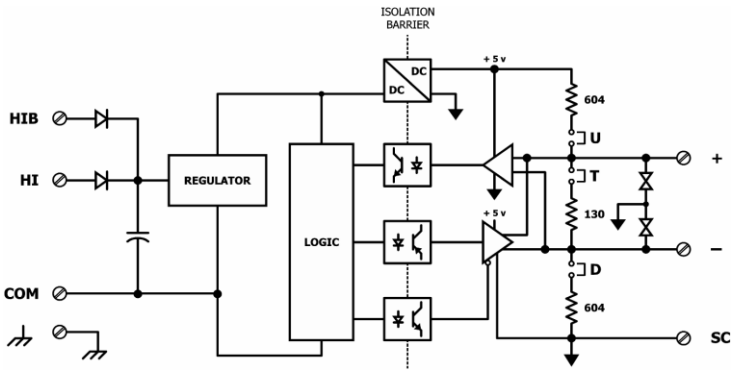

Figure 11 — Isolated EIA-485 Transceiver Circuitry
In *Figure 11* a simplified schematic of the isolated EIA-485 transceiver is shown. Notice that the transceiver common (SC) is electrically isolated from the router power supply common (COM) through the use of opto-isolators and an isolated DC-DC converter. By providing an isolated EIA-485 transceiver there is less opportunity to damage the transceiver by subjecting it to high common-mode voltages, but there is still a risk. Surge suppression is applied between the two differential inputs and between each input and ground. Since the transceiver is electrically isolated, the transceiver circuit common must be brought out for connection to the other devices on the MS/TP network. This is accomplished by pin SC. The differential pair is labelled + and – and corresponds to the same designations in the BACnet MS/TP standard. This requires a three-wire connection to the MS/TP network. When connecting other isolated MS/TP devices there is no problem since each device requires a 3-wire connection. Just make corresponding connections. For non-isolated MS/TP devices, usually only a 2-wire connection is provided. The third wire is the power supply common. In this situation, the SC connection must be made to the power supply common of the non-isolated device. Refer to the device vendor instructions for connecting such a device.